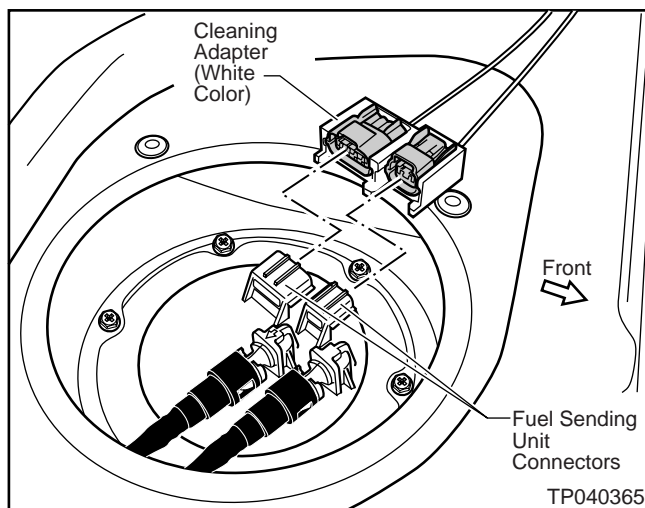

Figure 20
8. Install the Cleaning Adapter (white color adapter) onto the Fuel Sending Unit Connectors until it clicks (locks) in place. See Figure 20.